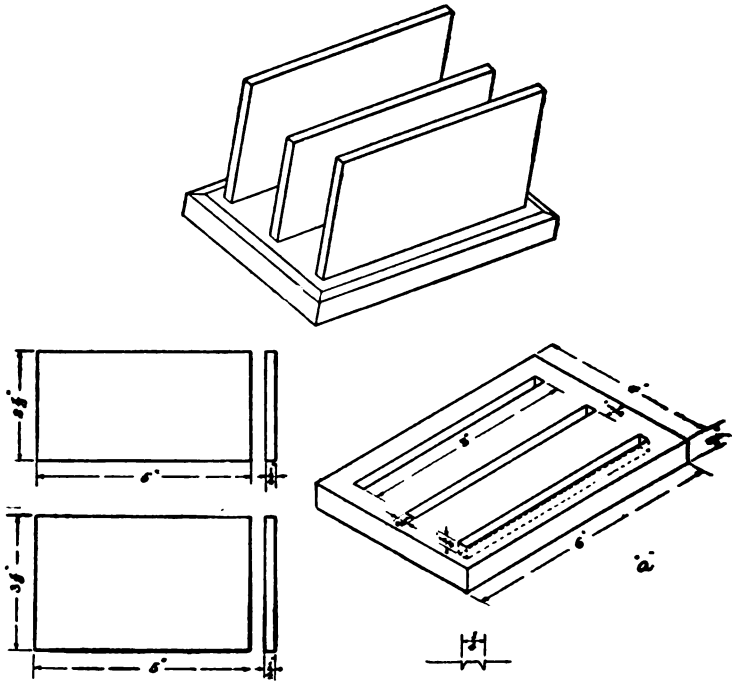
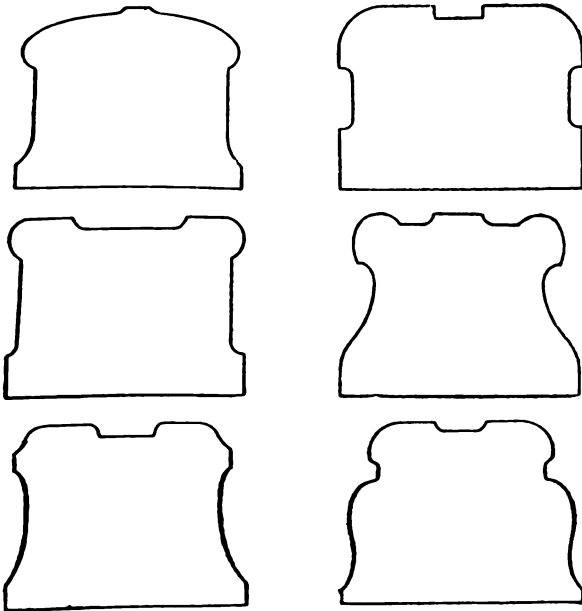

Fig. 67. Parts of letter rack
Fig. 68. Boys' designs for letter racks
**A**MONG the many useful articles which can be made with the knife in thin wood, with carving as enrichment, are the numerous desk accessories, such as envelope holders, letter racks, stamp and pen boxes, pen trays, blotting pads, etc. The boys, after exhausting the subject of pencil boxes for school use, took up the design and construction of letter racks. These, they decided, should be in two compartments for answered and unanswered letters. This called for three uprights, or partitions, and a base. They decided to make them of about uniform dimensions, as shown in the blank form (Fig. 67). The problem of the outline was somewhat affected by the fact that the front was to be carved. This called for a simpler outline than would have been the case had they expected to leave the surface plain. Some of the designs they worked out are shown in Fig. 68.
with a chisel. The method used was first to make the drawing shown at *a*, Fig. 67. The long side lines of each groove were scored with the point of the knife, going over each line several times, to